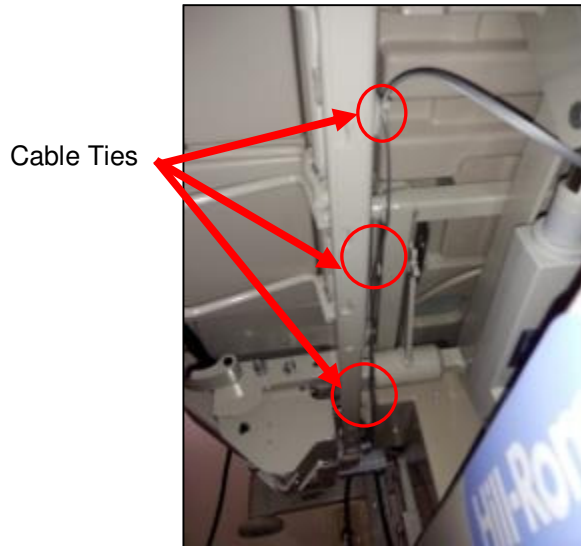

Figure 5. AC Line Power Sensor Cable Routing
3. Place cable tie holders, route and tie down any excess cable from the **AC Line Power Sensor** as shown (see *Figure 5*). After all cable management is complete, use small wire cutters to carefully flush cut off and dispose of all cable tie ends.